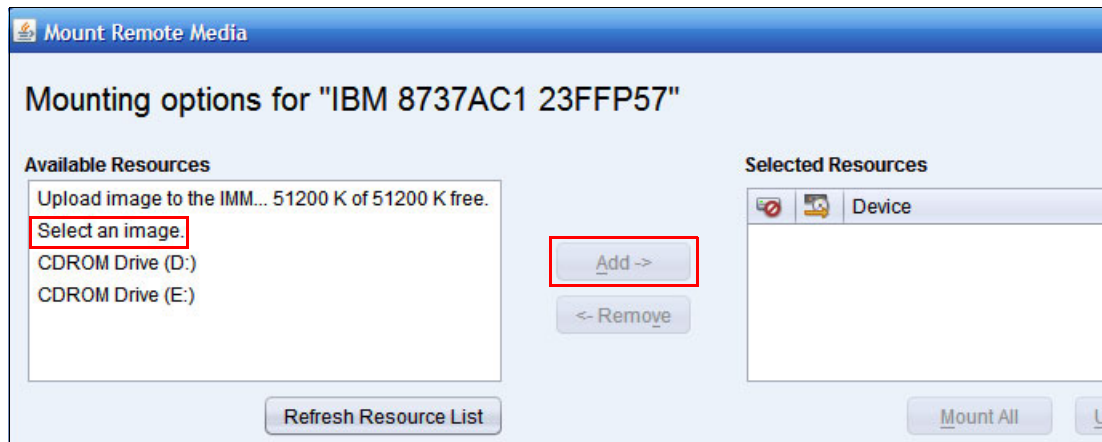

Figure 7-61 Mount Remote Media window
6. You can mount a local CD-ROM drive, upload an image to the integrated management module (IMM) (up to 50 MB), or select an image. Highlight **Select an image** and click **Add** as shown in Figure 7-61.